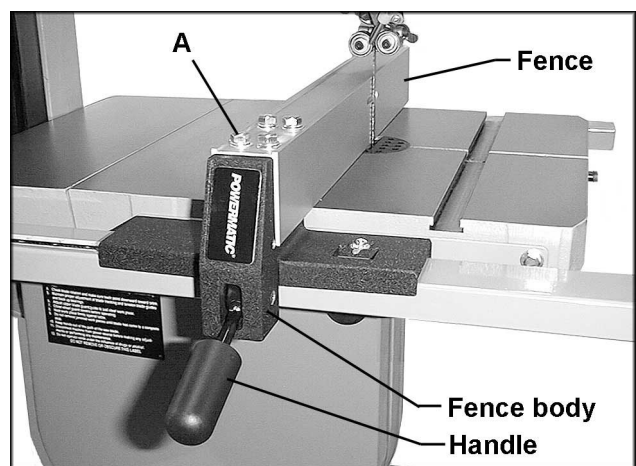

Fig. 16
5. Attach the fence to the fence body using four hex cap screws, four lock washers and four flat washers (A, Fig. 16). Tighten the screws. Lift up on the fence handle and set the fence assembly onto the table and guide rail.